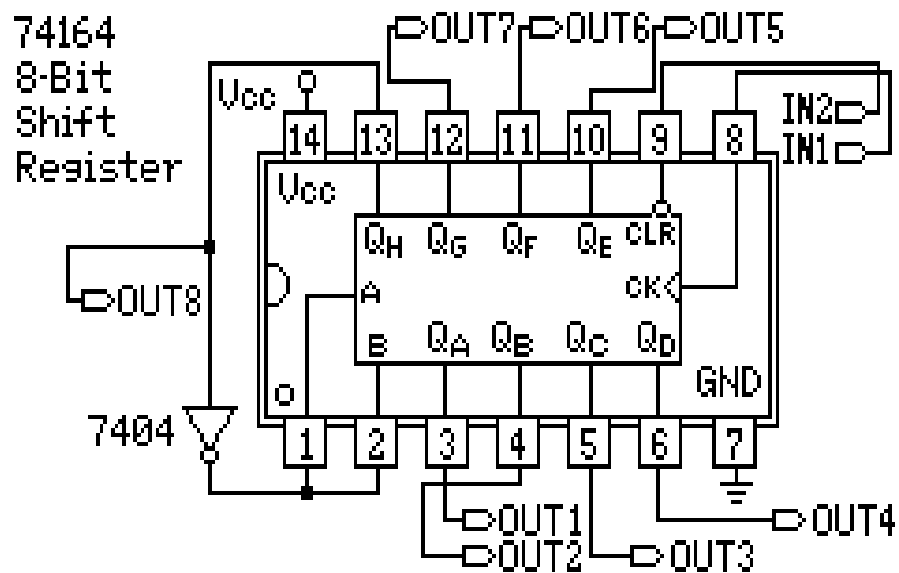

Figure 8-8
1. 8 bits SIPO shift Register as figure 8-8.